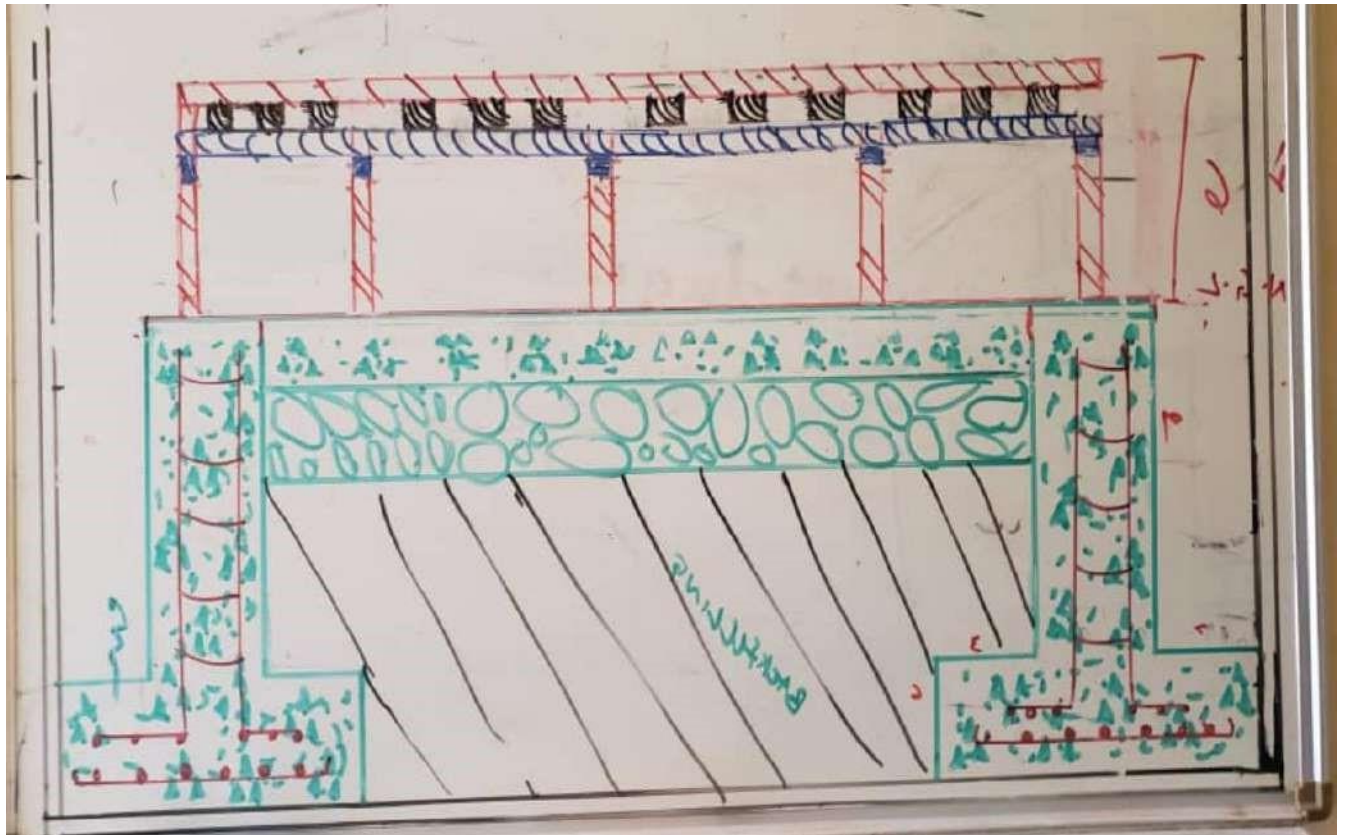

Figure 3.1: Design of the suspended ground floor
3.4.2. The design of the suspended ground floor is drawn up as Shown in Figure 3.1, taking into account the dimensions required (560mm by 915mm)